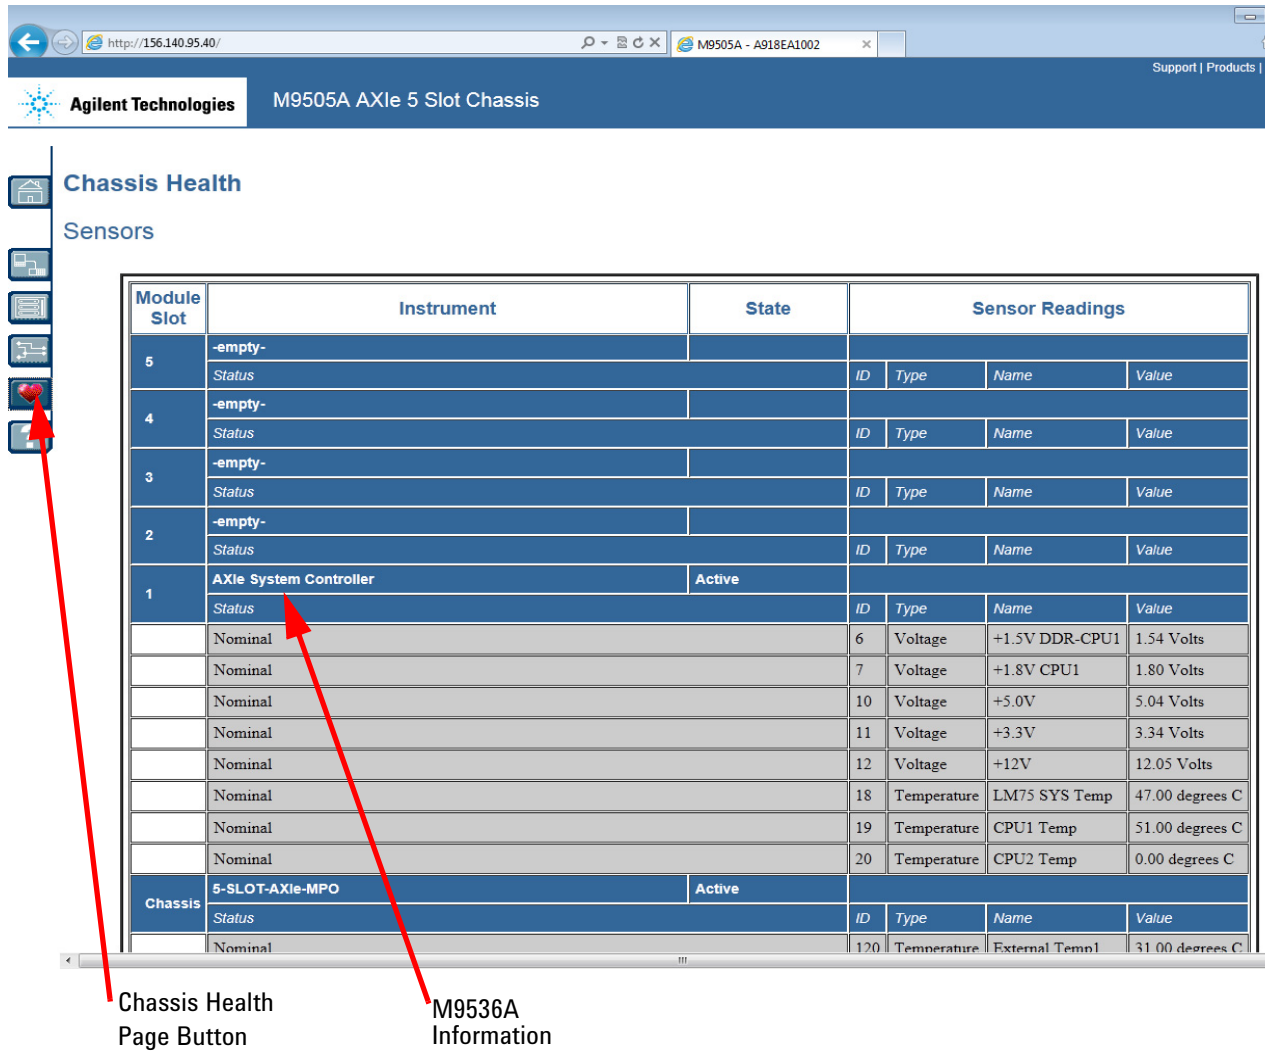

Figure 17 Chassis Health Page
- 2 Click on the **Chassis Health Page** button. This opens the Chassis Health page (Figure 17) that provides backplane rail voltages and operating temperatures in the M9536A Controller.